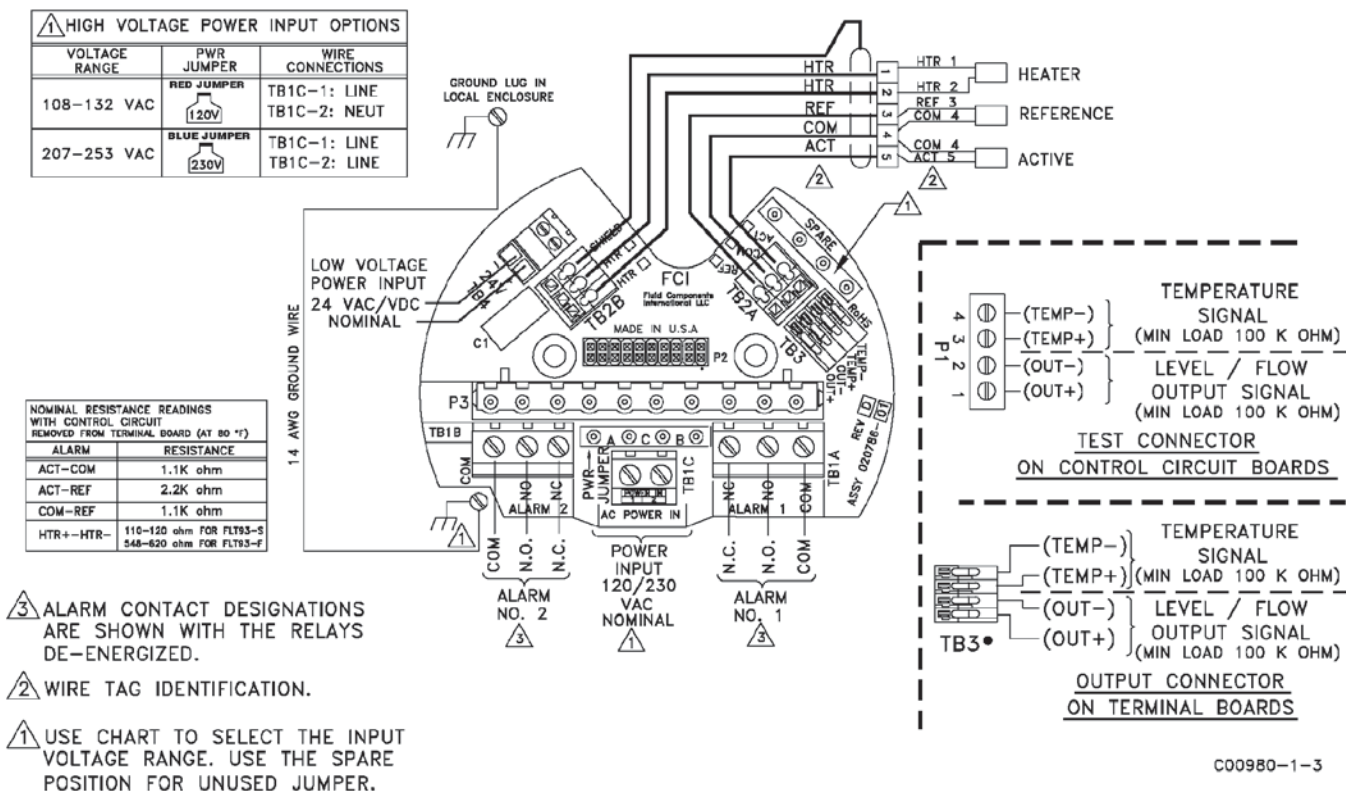

Figure 2-6 Remote Wiring Diagram
4. Run a five-conductor, shielded cable from the local enclosure to the remote enclosure. Use Table 2-1 to determine which wire gauge to use (wire between the local and remote enclosures according to Figure 2-6). It is recommended to include a 14 AWG wire between the two enclosures connected to the grounding lugs and then to earth ground close to the control circuit housing, with the connection not to exceed 1 ohm.
5. When connecting the relay wiring, do so with complete understanding of what the process requires of the instrument. The instrument has dual SPDT or single DPDT relay output contacts dependent on the jumper configuration for each alarm switch point. For the relay terminals and logic, refer to Figure 2-6. Also refer to Table 3-5 and Table 3-6 in Section 3 - Operation. Relay contacts are shown with the relays de-energized. Wire in accordance with the system requirements.